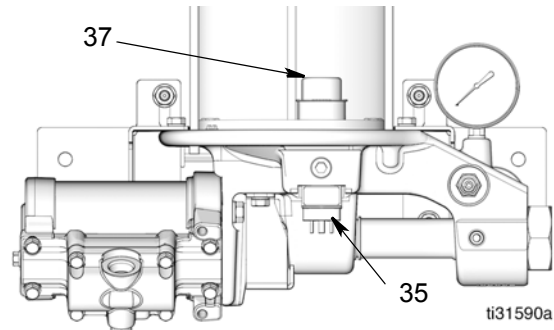

FIG. 11: Low level float in raised position
When the oil reservoir is full, the low level float (37) sits in the high, raised position as shown in FIG. 11.